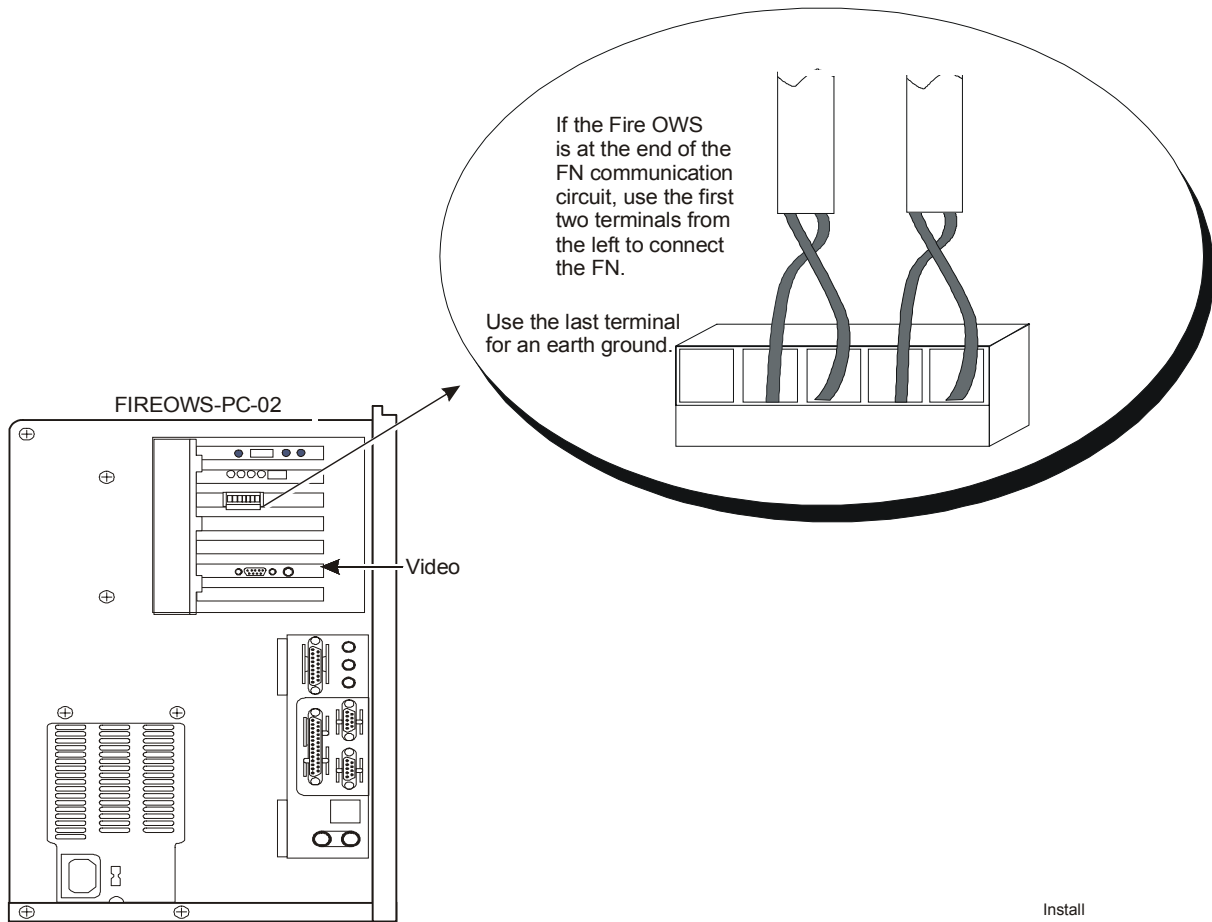

Figure 5: Installing the Twisted Pair Wire into the MIB-OWS Terminal Block
1. Install each end of the twisted pair wire into the terminal block of the MIB-OWS board, starting at the far left (Figure 5).